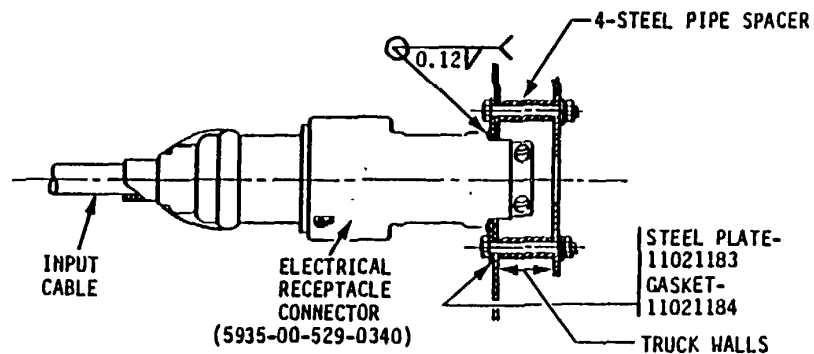

Figure 16. Wiring Diagram, M109A3.
no. 1 and 6 parallel to the bottom of the steel plate in accordance with figure 16. Weld electrical receptacle connector to steel plate with a 0.12-in. fillet weld in accordance with MIL-STD-1261.
(5) Apply a coat of synthetic rubber general purpose adhesive (MMM-A-189) on steel plate and attach gasket.
(6) Fabricate four steel pipe spacers (ASTM-A53) from 0.50-in. ID steel pipe of a suitable length to fit between outer and inner walls of van.
(7) Install steel pipe spacers between walls of van through the 2.62-in. diameter hole (fig. 16). The steel pipe spacers may be held in place using rods of a suitable size inserted in mounting holes from the inside of van.
(8) Complete wiring of electrical receptacle connector (5935-00-259-0340) in accordance with figure 16. Apply a coat of synthetic rubber general purpose adhesive (MMM-A-189) to gasket and position electrical receptacle connector through 2.62-in. diameter hole on outside front wall in accordance with figures 13 and 16. Secure, using four 5/16- x 3-in. machine bolts (MS90725-44), (inserting from outside of van), four 5/16-in. lockwashers (MS35338-45), and four 5/16-in. hex nuts (MS51967-5).
(9) Remove the four existing screws securing 110-volt outlet to outer front wall of van and discard. Pull 110-volt outlet away from wall and remove wires. Position 110-volt outlet in accordance with figure 13. - Rewire in accordance with figure 16. Secure 110-volt
(27) Complete wiring of components in accordance with wiring diagram (fig. 16) : Install covers on electrical components.